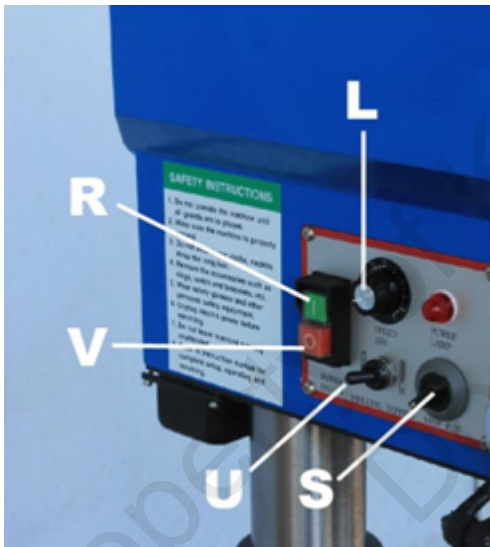

Figure 7-2: Switch panel
1. Choose between Drilling and Tapping via Select Switch (U, Fig. 7-2).
2. Turn the black knob (S, Fig.7-2) to run to start spindle rotation.
3. Rotate the Variable Speed Selector (L) to adjust the spindle speed.